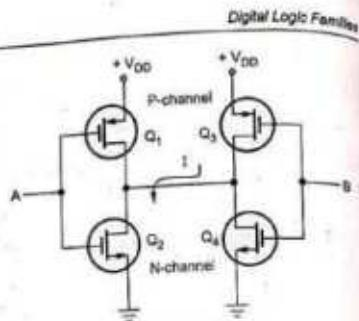

Fig. 3.4.10
- \* Fig. 3.4.10 shows two CMOS inverters with their outputs connected together.